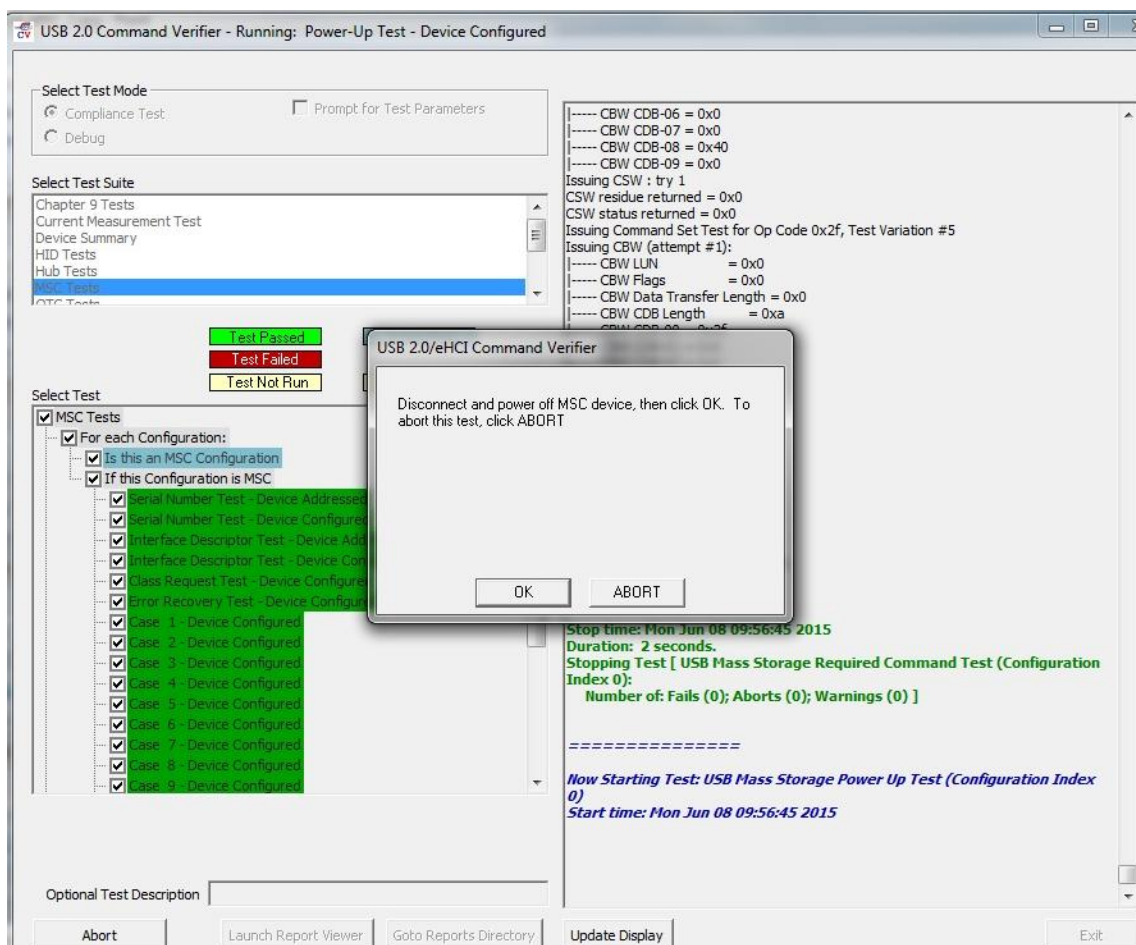

Figure 88. USBCV MSC Tests_Repower device
4. During the test, a pop-out dialog will ask you to disconnect and power off DUT, and then repower DUT, as shown in Figure 88.